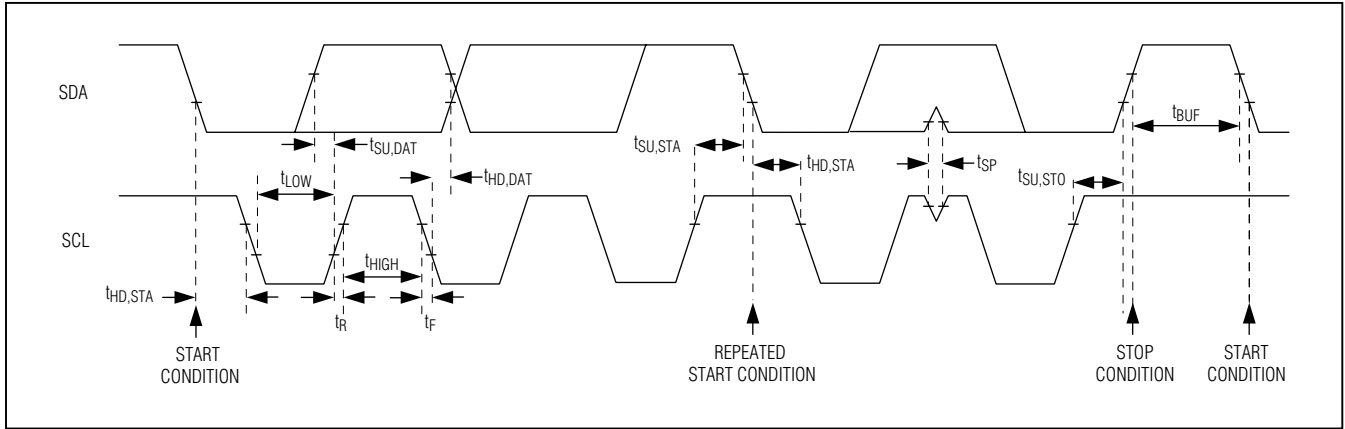

Figure 7. I²C Interface Timing Diagram
The IC features an I²C/SMBus™-compatible, 2-wire serial interface consisting of a serial-data line (SDA) and a serial-clock line (SCL). SDA and SCL facilitate communication between the devices and the master at clock rates up to 1MHz. Figure 7 shows the 2-wire interface timing diagram. The master generates SCL and initiates data transfer on the bus. A master device writes data to the devices by transmitting the proper slave address followed by the register address and then the data word. Each transmit sequence is framed by a START (S) or REPEATED START (Sr) condition and a STOP (P) condition. Each word transmitted to the MAX9679B is 8 bits long and is followed by an acknowledge clock pulse. A master reading data from the devices transmits the proper slave address followed by a series of nine SCL pulses. The devices transmit data on SDA in sync with the master-generated SCL pulses. The master acknowledges receipt of each byte of data. Each read sequence is framed by a START (S) or REPEATED START (Sr) condition, a not acknowledge, and a STOP (P) condition. SDA operates as both an input and an open-drain output. A pullup resistor, typically greater than 500Ω, is required on the SDA bus. SCL operates as only an input. A pullup resistor, typically greater than 500Ω, is required on SCL if there are multiple masters on the bus, or if the master in a single-master system has an open-drain SCL output. Series resistors in line with SDA and SCL are optional. Series resistors protect the digital inputs of the devices from high-voltage spikes on the bus lines, and minimize crosstalk and undershoot of the bus signals.